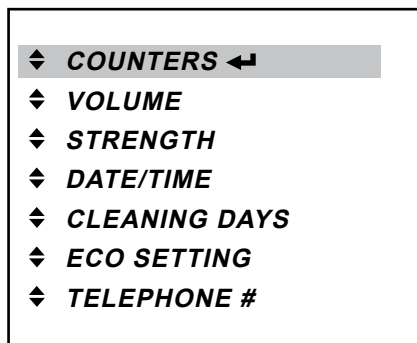

Fig. 33
- In the operator mode, press the enter button  to access the «COUNTERS» menu. (Fig. 33)